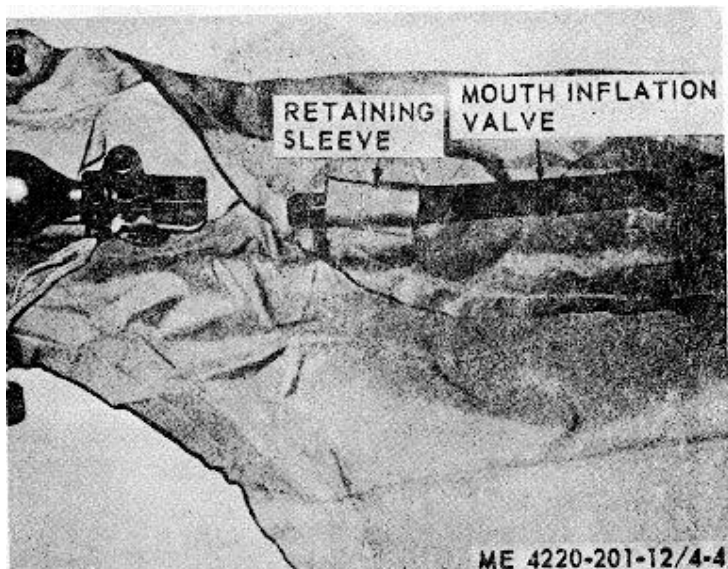

Figure 4-4. Mouth inflation valve secured in retaining sleeve.
*f.* Adjust the mouth inflation valve to the closed position and insert the valve into the valve retaining sleeve (fig. 4-4).